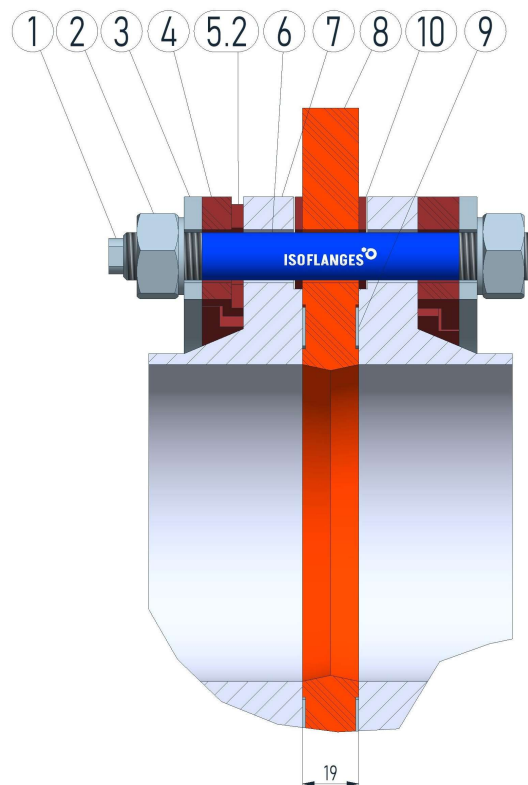

Figure 5: Cross-section of insulating flange connection HP2
- The insulating rings are mounted between the flange and the thrust collar as shown in Figure 5.